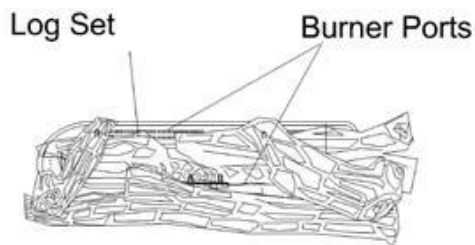

Figure 18 - Installing Log Set
**IMPORTANT:** Make sure log does not cover any burner ports (see Figure 18). It is very important to install the logs exactly as instructed. Do not modify logs. Use logs supplied with heater only.